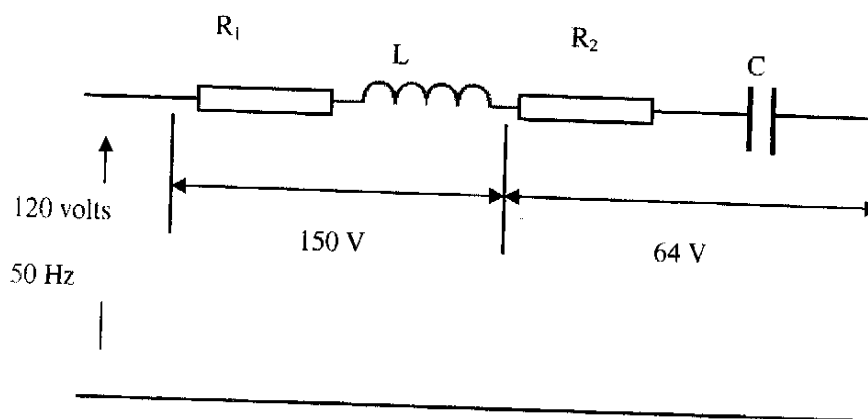

Fig Q4
- (ii) the resistance and inductance of the relay coil. (4)
- Calculate the new time delay assuming the instantaneous current is 200 mA. (6)
- (a) Draw the load line on the characteristics. (2)
- (i) the R.M.S. signal current in the load; (4)
- (ii) the d.c. power dissipated in the load; (4)
- (iii) the R.M.S. output voltage; (4)
- (iv) the current gain of the transistor. (2)
4. The series a.c. circuit shown in Fig Q4 is connected to 120 V, 50 Hz supply. It draws a current of 2.4 A at a power factor of 0.8 lagging. The resistor R_2 dissipates 57.6 W and the volt drops across the various parts of the circuit are as shown.